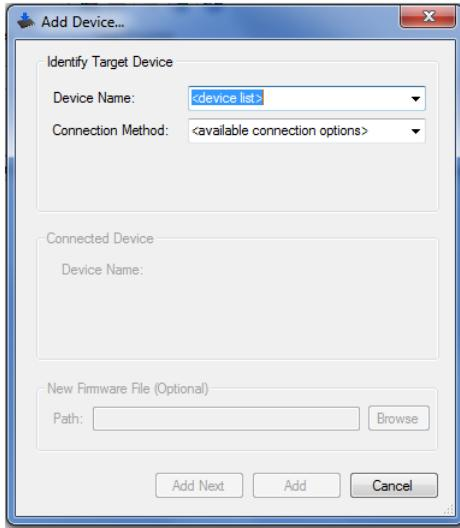

Figure 20. Add Device Window
3. From the Configure menu, select Firmware Loader. The Add Device window appears (figure 20).